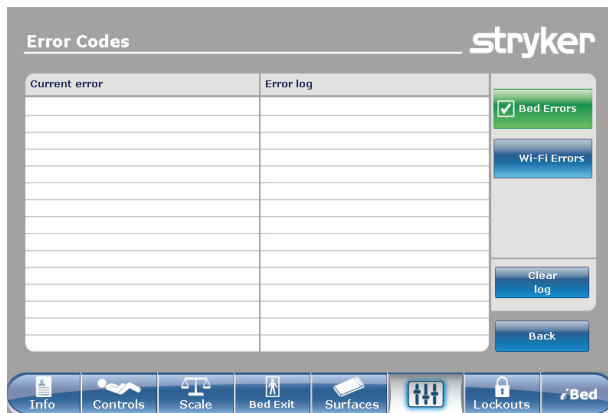

Figure 89: Error Codes
**Error Codes:** Displays the current active errors and the error log (Figure 89 on page 76). See the **InTouch** maintenance manual for the definition of the error codes.